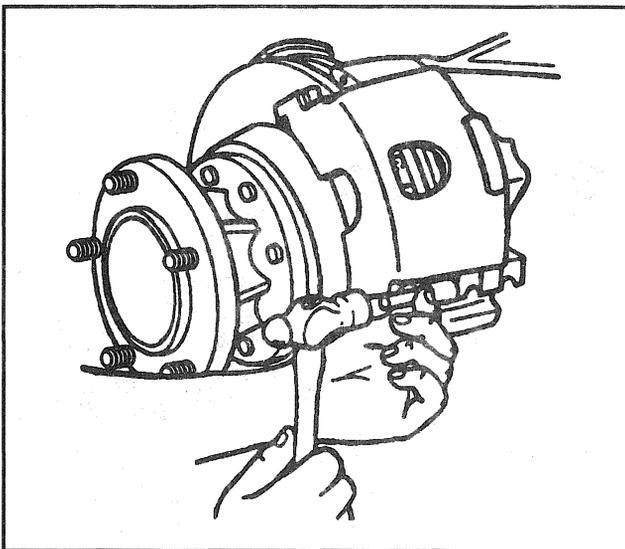

Figure 18—Removing the Caliper Support Key
- 8. Bolt (2).
- 9. Support key (3) and spring (4).
- Use a brass punch and a hammer to drive the support key out (Figure 18).
- 10. Caliper assembly (1).